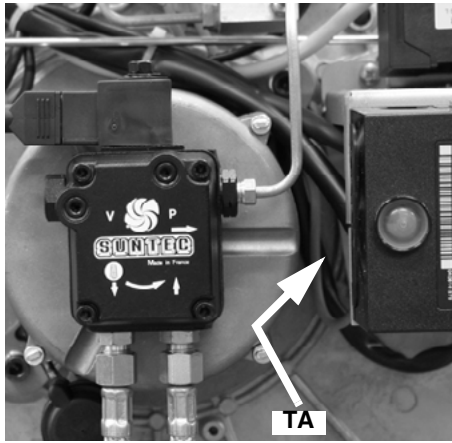

Fig. 51
- Disconnect the ignition cables **CA1** and **CA2** from the transformer **TA** (Fig. 51).